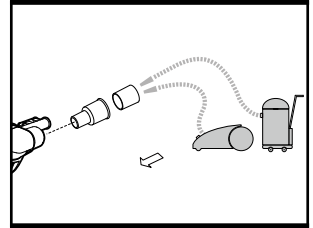

Fig. 6-1
3. USING THE SUCTION DEVICE(See Fig. 6-1 6-2)